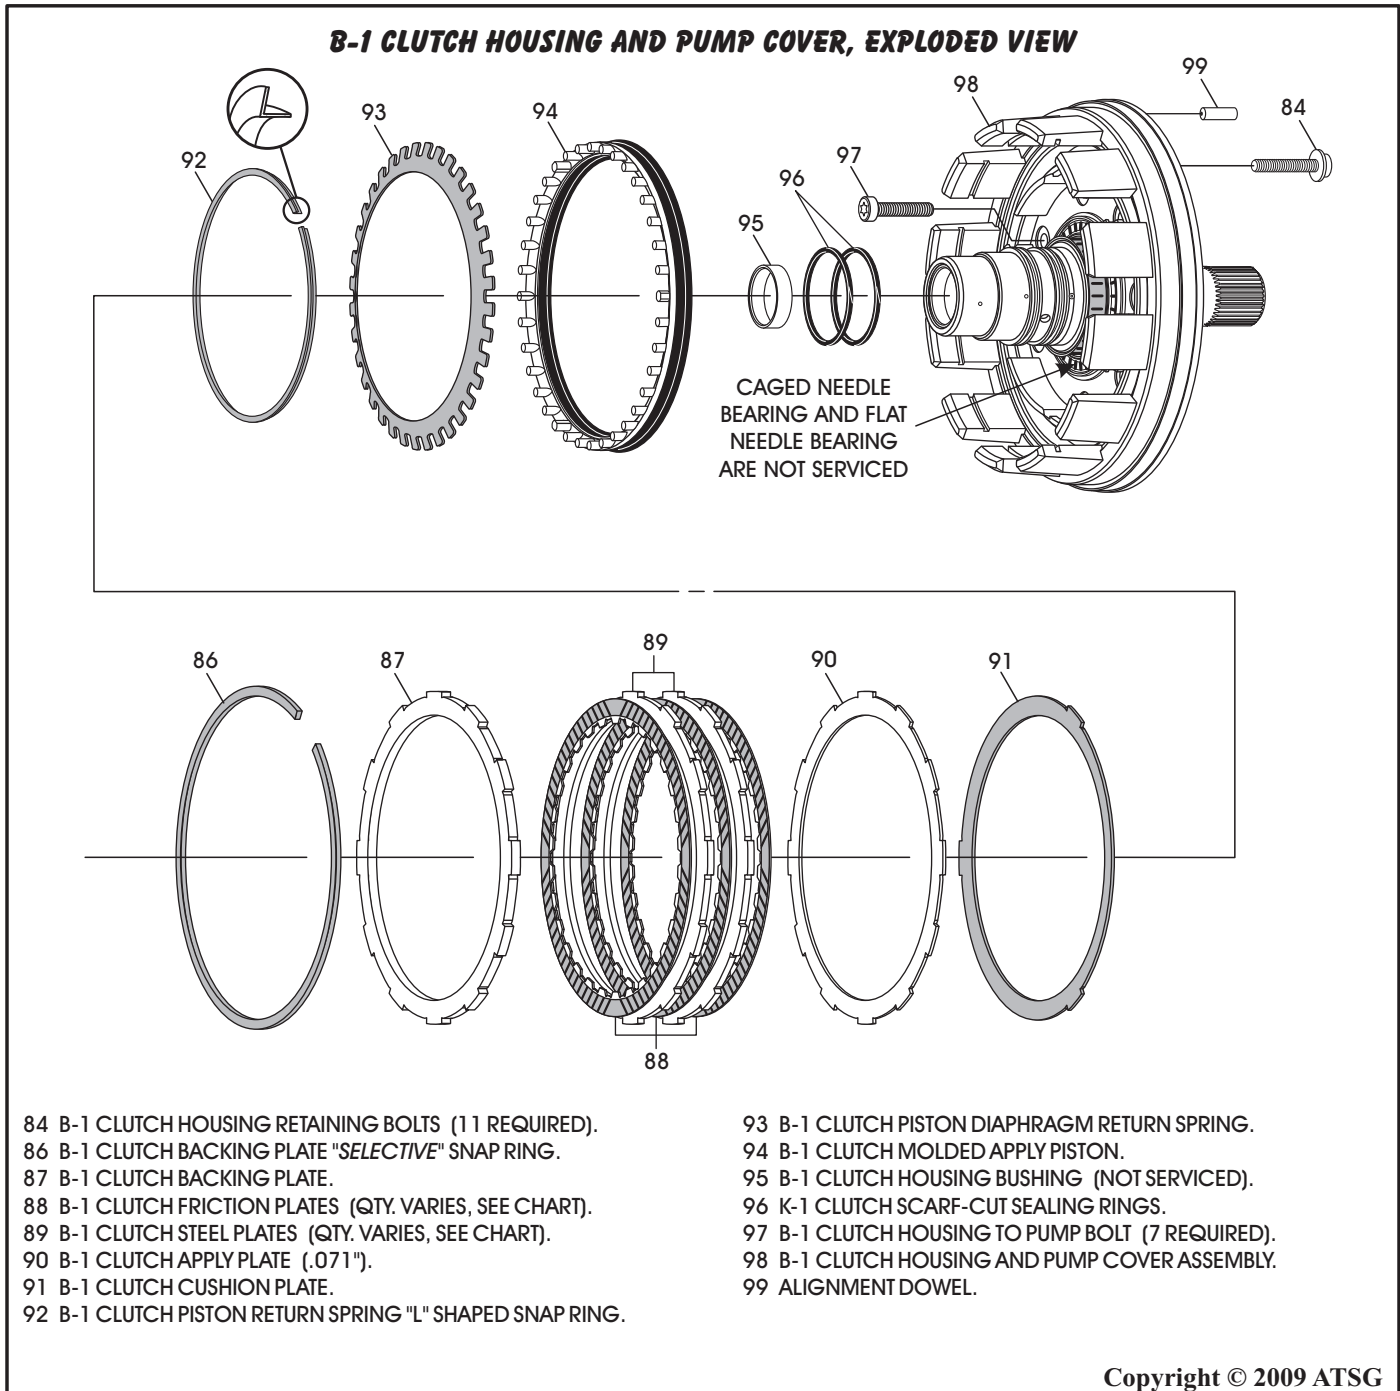

Figure 70
- 20. The B-1 clutch return spring is the diaphragm style, as shown in Figure 70.
- 21. The snap ring for diaphragm style return spring is "L" shaped, as shown in Figure 70.
- 23. The number one thrust bearing is located under a pressed on caged roller bearing on B-1 clutch housing, as shown in Figure 70.
Note: Neither of these bearings are serviced. If they are damaged, you must replace the B-1 clutch housing. The bushing (95) shown in Figure 70 is also not serviced.